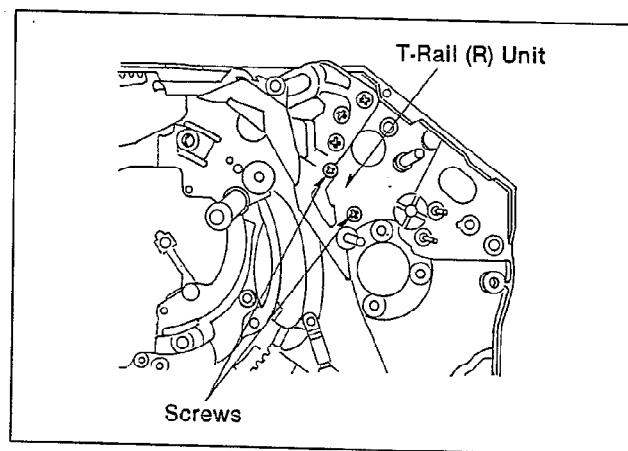

Fig. M8
- (2). Install the T-Rail(R) Unit as shown in Fig.M8.